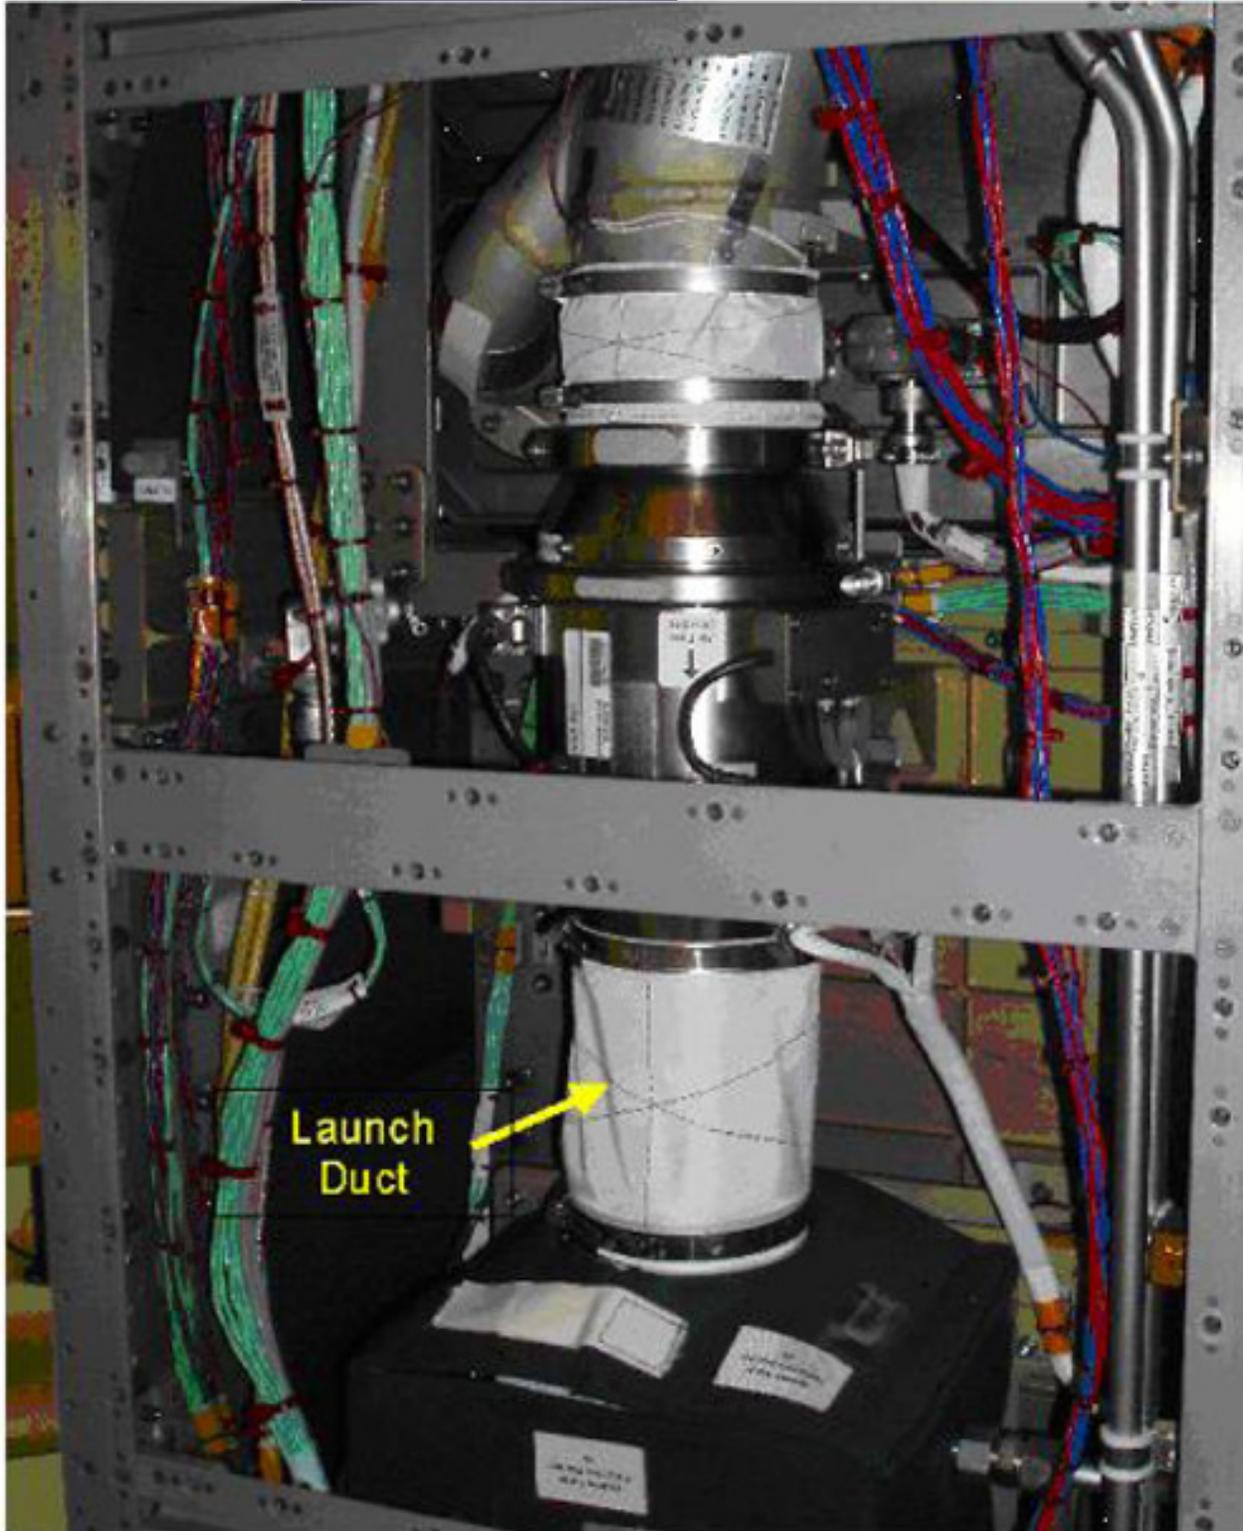

Figure 1. Launch Duct
- 3.1 Loosen Two Launch Duct Clamps (Driver Handle 1/4" Drive, M4 (7mm) Socket, 1/4 " Drive) (Figure 1)